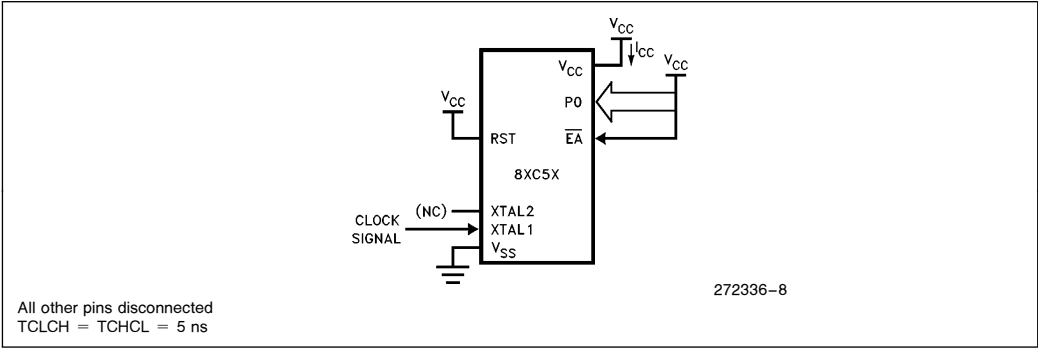

Figure 6.  $I_{CC}$  Test Condition, Active Mode
- See Figures 6–9 for test conditions. Minimum VCC for Power Down is 2V.